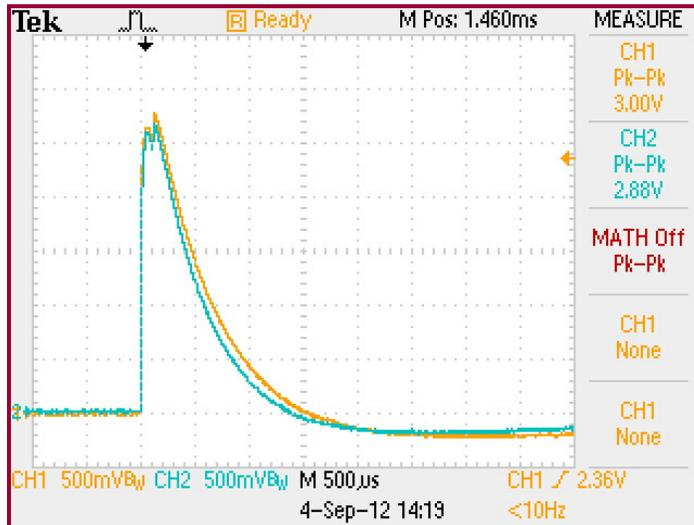

Figure 5.0-5: Typical  $\Delta V$  for a “good” bag (12V)
- d. Set the "SINGLE SEQ" button and initiate a discharge. For a "good" shielding bag, ( $\Delta V < 30V$ ) the waveform should look similar to that shown in Figure 5.0-5. If the signal levels of CH-1 and/or CH-2 exceed the dynamic range of the scope sensitivity level selected this will cause the input amplifier to saturate, causing a significant measurement error. This condition normally occurs when buried metal layer bags are tested and 50, 100 or 200 mV sensitivity levels are selected to obtain greater voltage differential resolution.